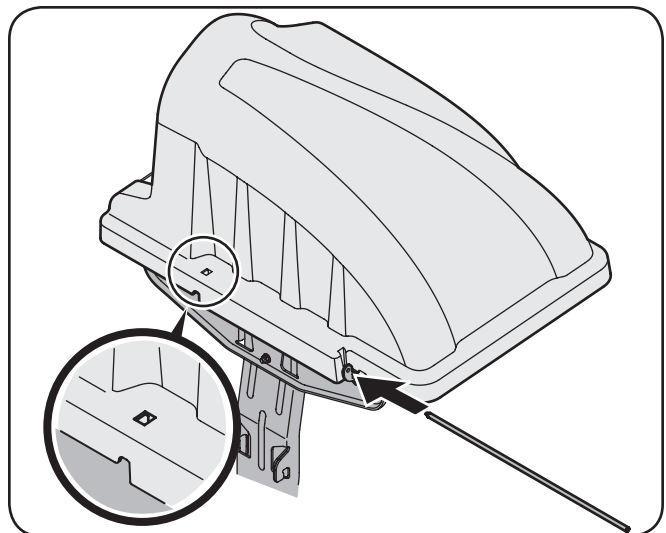
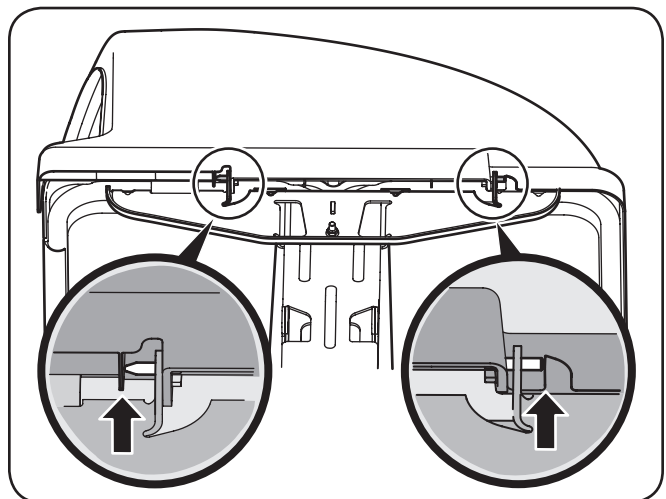

Figure 4-10
Figure 4-11
5. Slide the hinge pin into the hole located on the mounting tab, as in Figure 4-10. Use the cut-out window (See inset in Figure 4-10) to line up the hinge pin on the other side and push pin all the way in until it reaches the end-stop. At this point the pin clips into place and is secured by a tab in the bagger cover. See Figure 4-11.